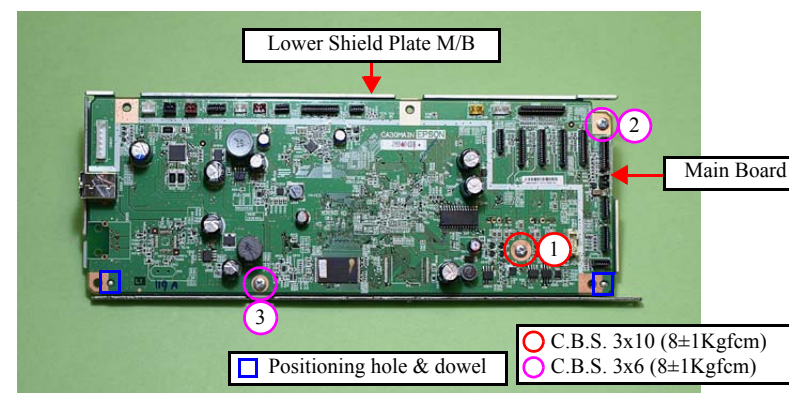

Figure 4-234. Removing the Main Board (3)
- Align the positioning holes (x2) on the Main Board with the dowels (x2) of the Lower Shield Plate M/B. (See Fig. 4-234.)
- Tighten the screws in the order given in Fig. 4-234.